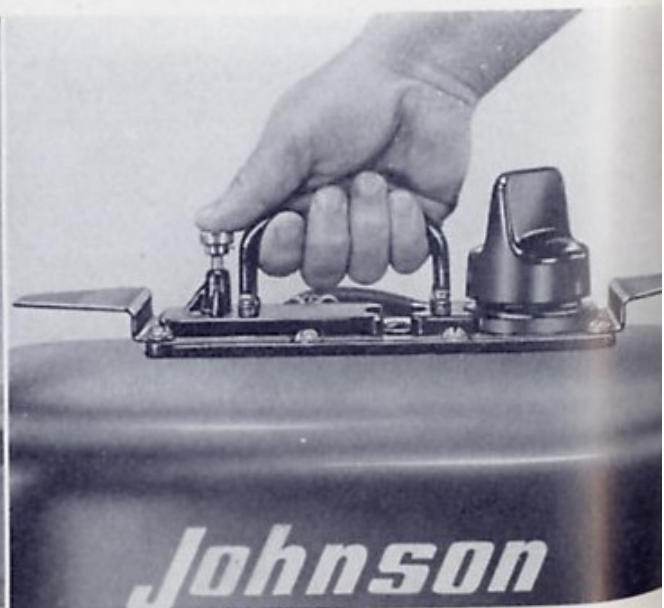

Figure 10
1. Depress primer button on the tank several times as shown, Fig. 10. Note that the pressure required to operate the primer increases as the fuel line and carburetor fill up. THIS IS YOUR SIGNAL TO STOP PUMPING. It is not